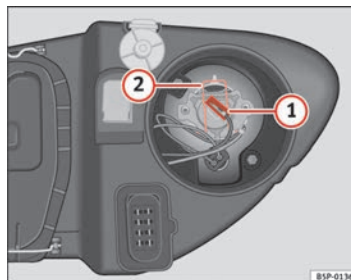

Fig. 188 Main beam headlights
- Remove the connector ⇒ fig. 188 ① from the bulb.
- Press the spring ⇒ fig. 188 ② inwards and to the right.